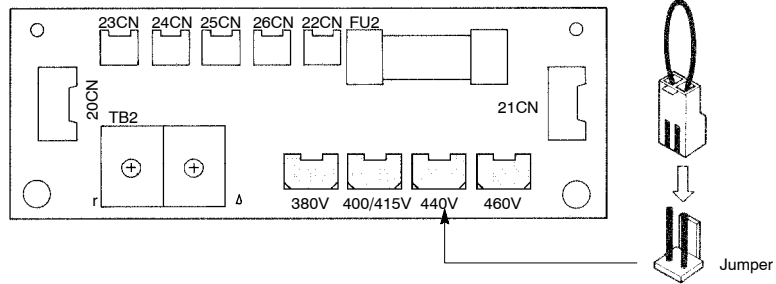

Fig 5.1 Setting the Power Supply Voltage (Illustration Above is for 400 V Class Inverter between 18.5 kW and 45 kW)
3. Insert the jumper at the position for the voltage supplied to the Inverter (see *Figure 5.1*).